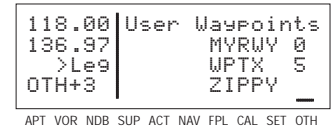

Figure 3-176
- Press **ENT** to approve the deletion (figure 3-176).